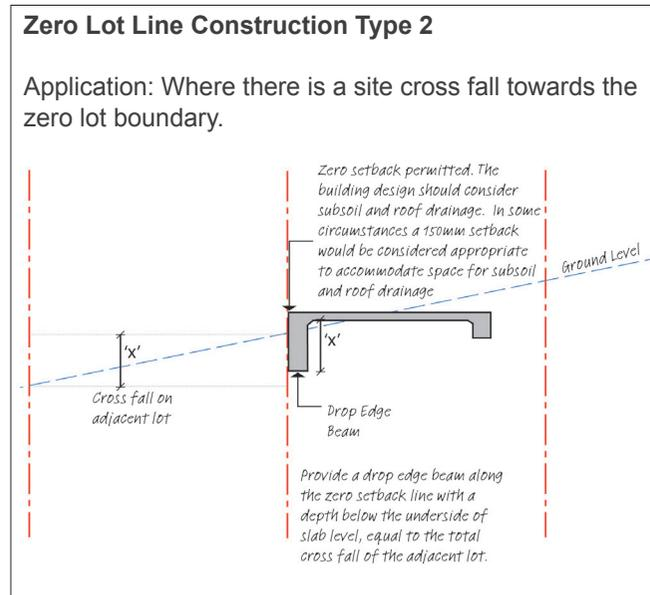
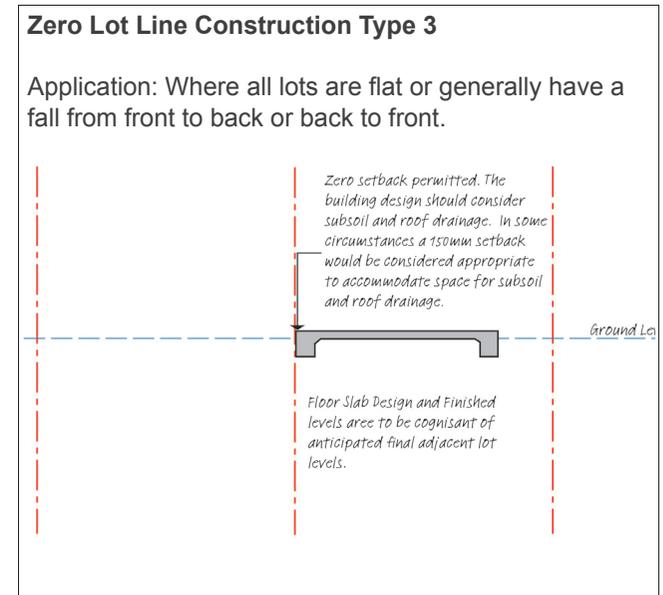

FIGURE 16: Zero Lot Line Construction Type 2
FIGURE 17: Zero Lot Line Construction Type 3
- be 0mm if site conditions and building design permit (Figure 16 and Figure 17);